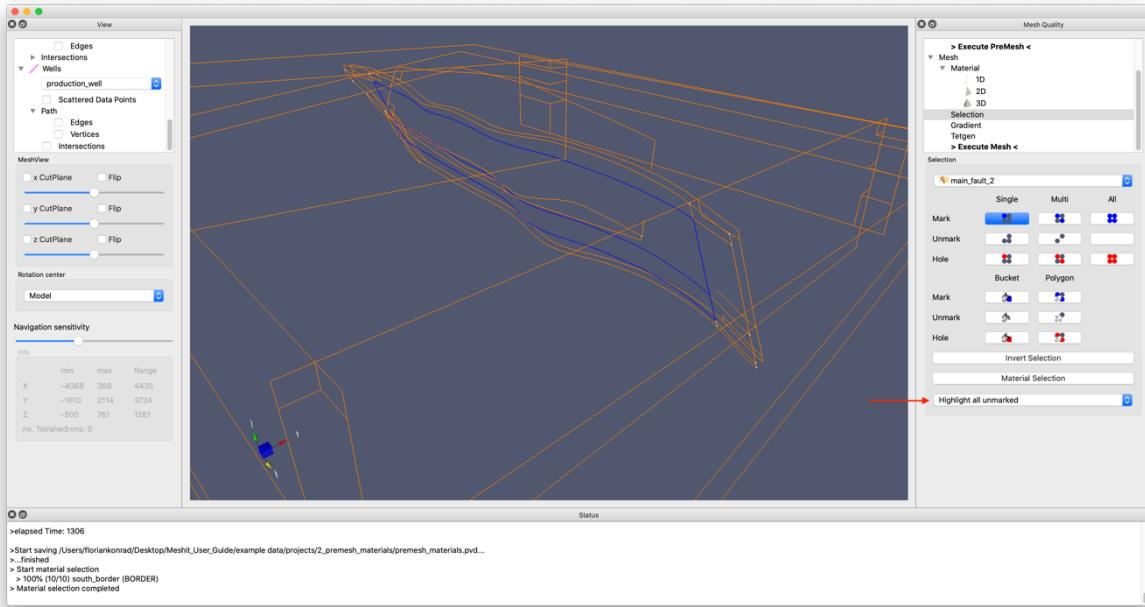

Figure 10 Highlight all unmarked option
*Tipp: It is important to spatially understand how the overlapping input surfaces interact with each other. For that it can be helpful to visualize different surfaces via the **View Panel**. Or use the **highlight all unmarked** option from the dropdown menu (see Figure 10).*